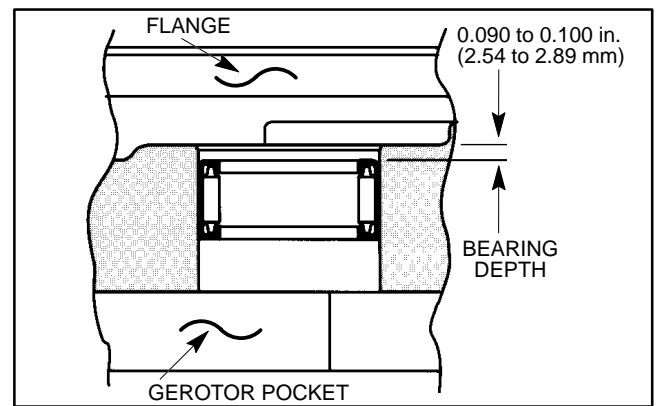

Figure 27
B. Bearing needles must remain in bearing cage and move freely. Verify that bearing depth on the flange side meets the dimension in Figure 27.